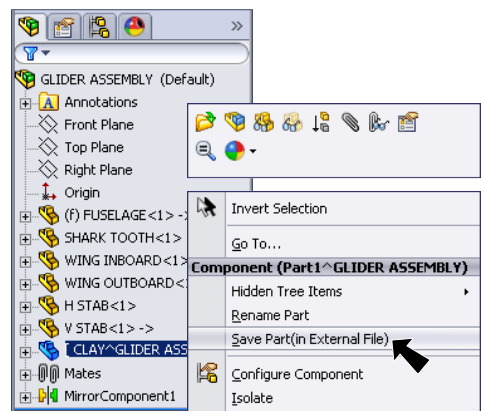

Fig. 29
Step 4. **Right click Clay** in the Feature Manager and click **Save Part(in External file)**, Fig. 29.